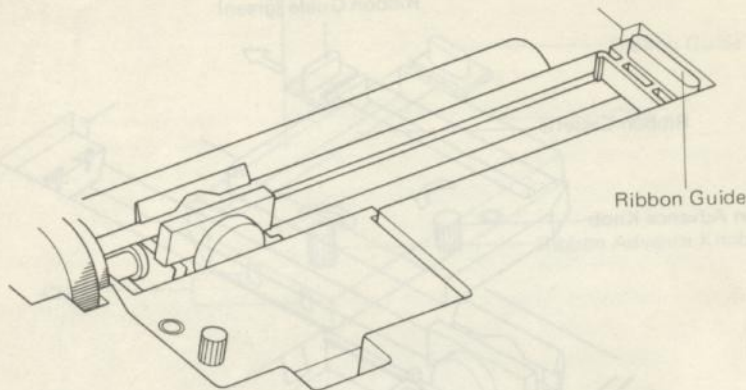

Figure 8.
- a. Turn off the power and remove the top cover (See Figure 8).